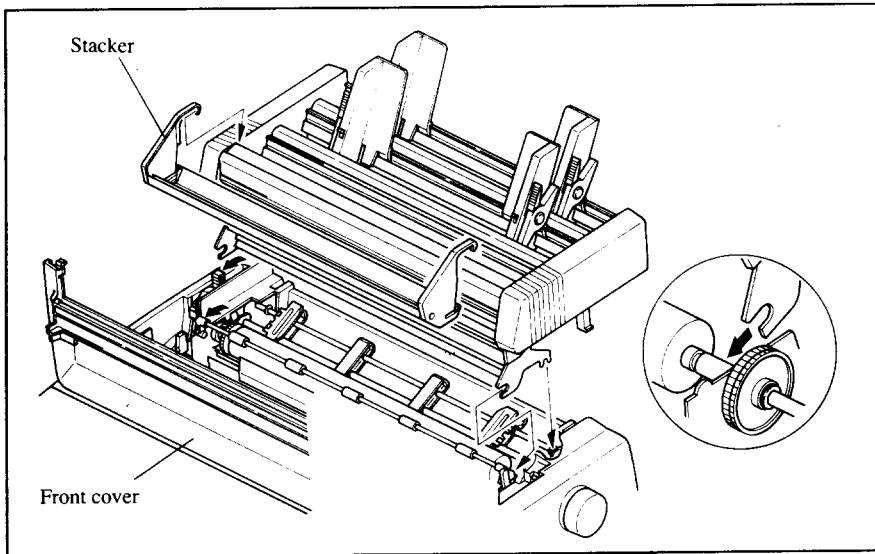

Figure 3-8. Attach the stacker to the Automatic Sheet Feeder.
4. A stacker is included with the Automatic Sheet Feeder. Attach the hook at the top of the stacker to the Automatic Sheet Feeder. Then push the lower section of the stacker down into position, and engage the lower hook as shown in Figure 3-8.